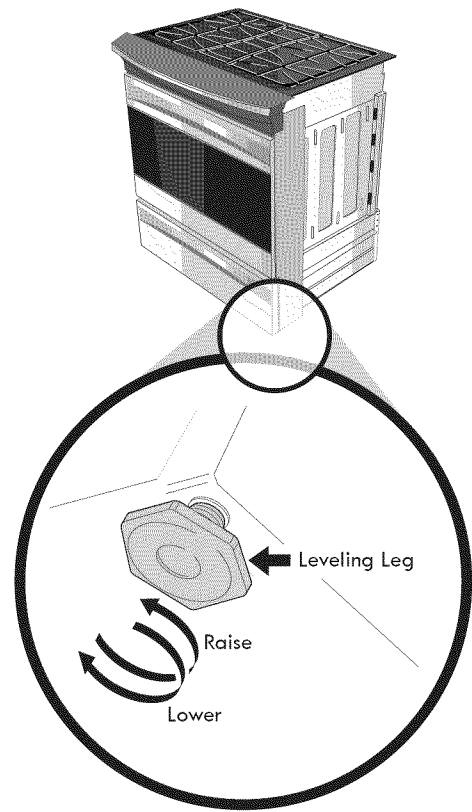

Figure 20
4. Remove template and place bracket on floor. Line up holes in bracket with marks on floor and attach with 4 screws provided. Bracket must be secured to solid floor (Figure 20). If attaching to concrete floor, first drill 3/16" (0,48 cm) dia. pilot holes using masonry drill bit.
4. Level range if necessary, by adjusting 4 leg levelers with wrench (Figure 20). A minimum clearance of 1/8" (0.8 cm) is required between the bottom of the range and the rear leg levelers to allow room for the anti-tip brackets.